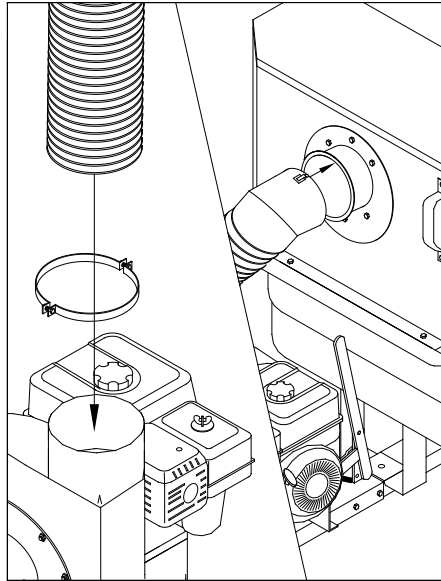
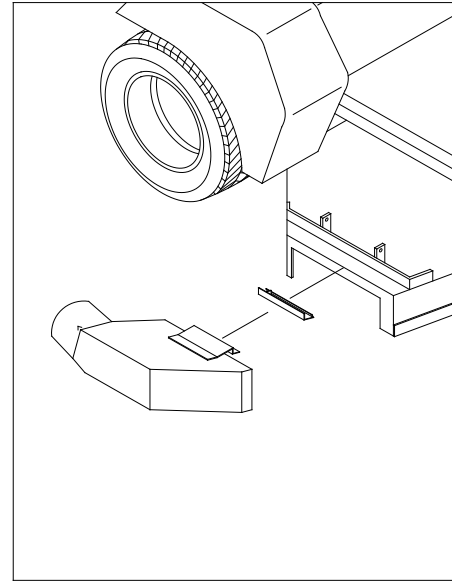

Fig. 8
Fig. 9
15. Push the metal intake hose (14) onto the turbine housing (17) approximately 2 inches. Secure with metal hose clamp (25) and tighten clamp until hose collapses onto turbine housing. Stretch the metal hose enough to reach the cart connector (21) and clip on. **Fig. 8**
16. Slid Hose Support Arm (35) in to Support Arm Bracket (6).
17. Install chute (tractor specific) on tractor. **Fig. 9**